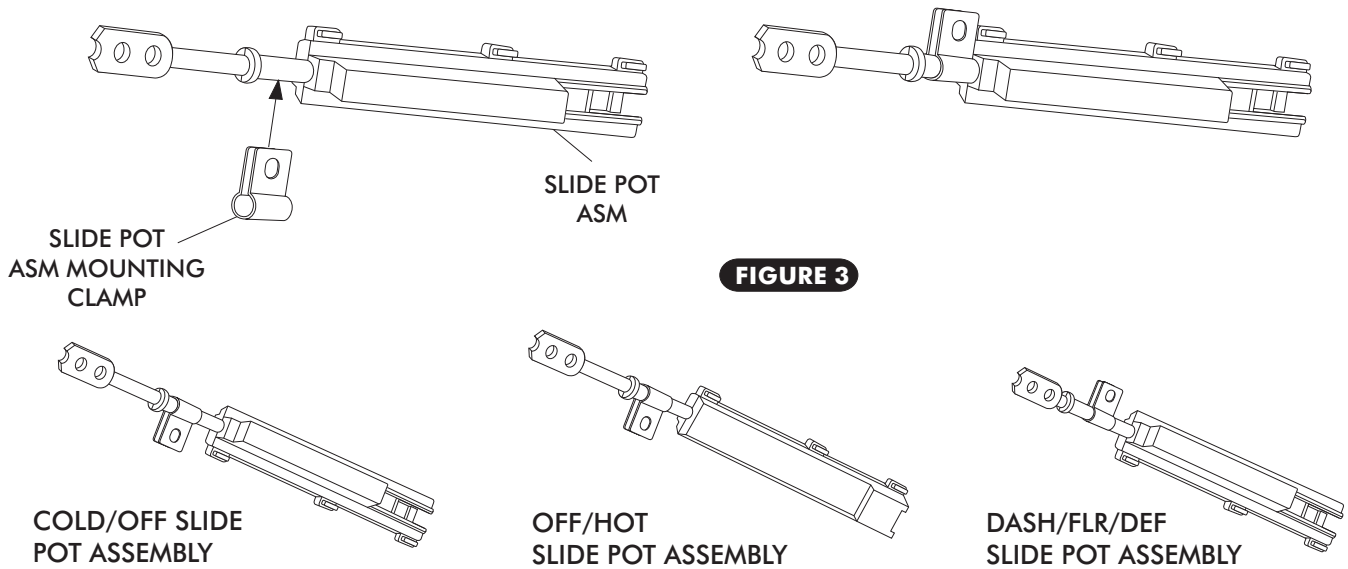

FIGURE 3
- INSTALL SLIDE POT ASM MOUNTING CLAMPS. SEE FIGURE 3 BELOW.